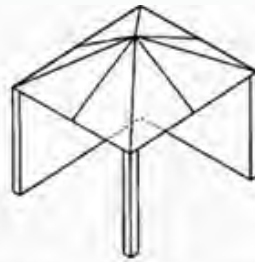

Figure 2 - Partial Enclosure with overhead cover and no more than 2 walls
- Within a partial enclosure that includes an overhead cover and no more than two walls. See Figure 2.